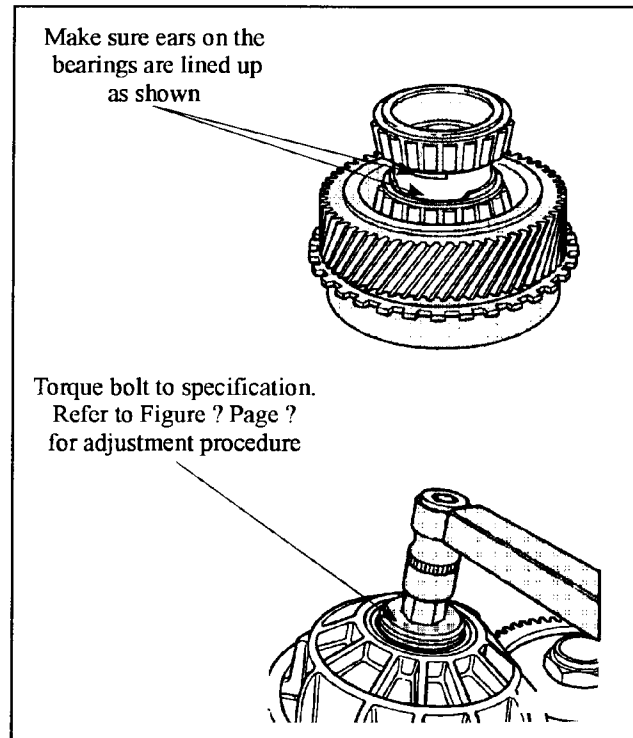

Figure 140
2. When the output ring gear bearing is seated in the inner race of the transaxle case, place the outer tapered bearing onto the output ring gear and line up the tabs as shown in Figure 140.